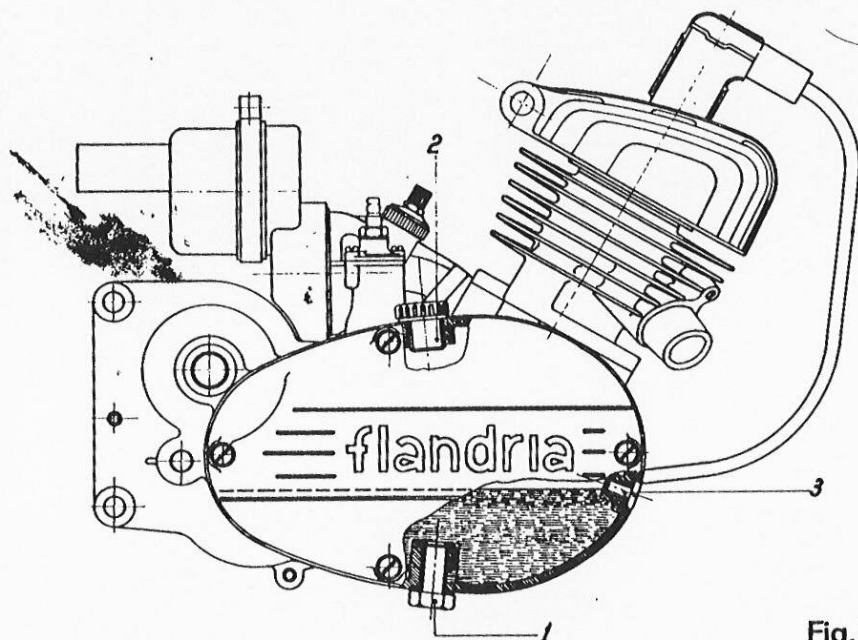

Fig.3
- 2) Crankcase and Clutch (fig.3)
- after every subsequent 600 miles : Check the oil level by removing the screw (3). Top up as necessary to maintain level indicated in fig.3 . Do not overfill.